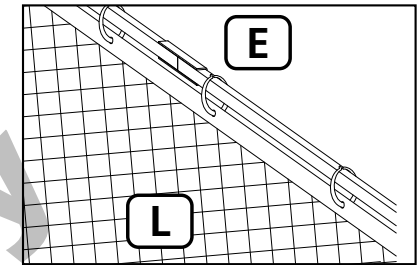

Fig. 11
Use the Plastic Rings (N) to hang each Netting Panel (L) from Crossbeams (E), see Fig. 11. Once completed, the tops of the Netting Panels (L) should be underneath Main Canopy (J) so that the Plastic Rings (N) aren't visible from outside the gazebo.